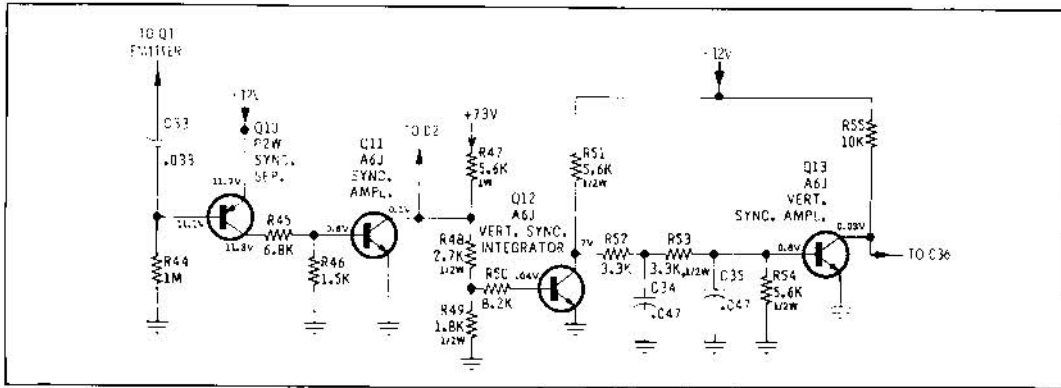

Figure 6-9 Motorola Monitor Sync Circuit
**Sync Circuits (See Figure 6-9)**